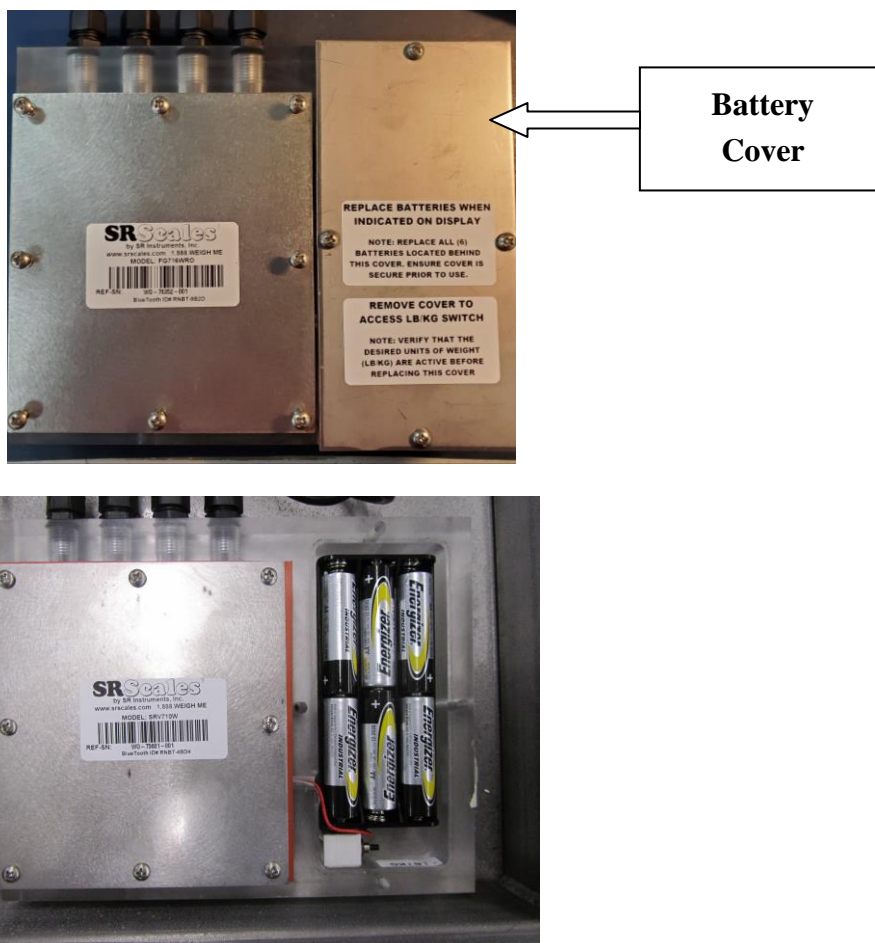

Figure 4: Battery Replacement
STEP 1: Turn the platform over and remove the four screws on the Battery Cover (Figure 4).
STEP 2: Remove and replace the six (6) “AA” cell batteries.
STEP 2: Remove the two (2) screws holding the display housing to the platform
STEP 3: Pull the display out from under the platform and remove the eight (8) screws from the display box cover pictured in (Figure 4).